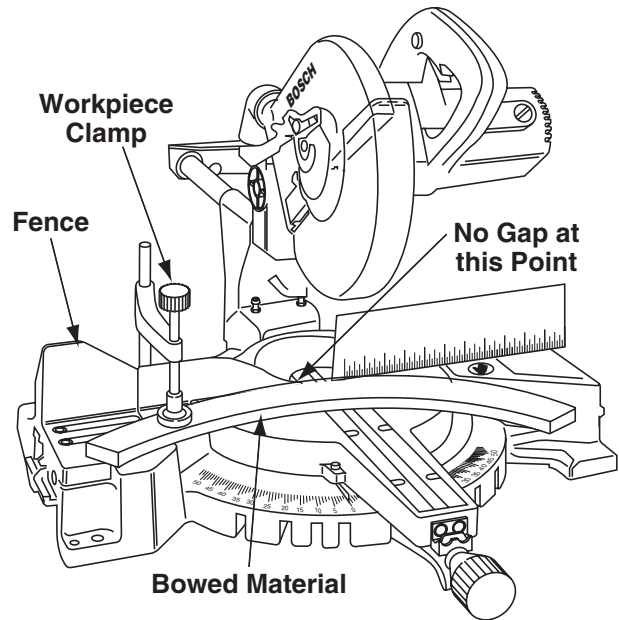

Figure 36. Bowed Material
**⚠ WARNING** If workpiece is bowed or warped, clamp it with the outside bowed face toward the fence. Always make certain that there is no gap between the workpiece, fence and table along the line of cut. Bent or warped workpieces can twist or rock and may cause binding on the spinning saw blade while cutting (Figure 36).